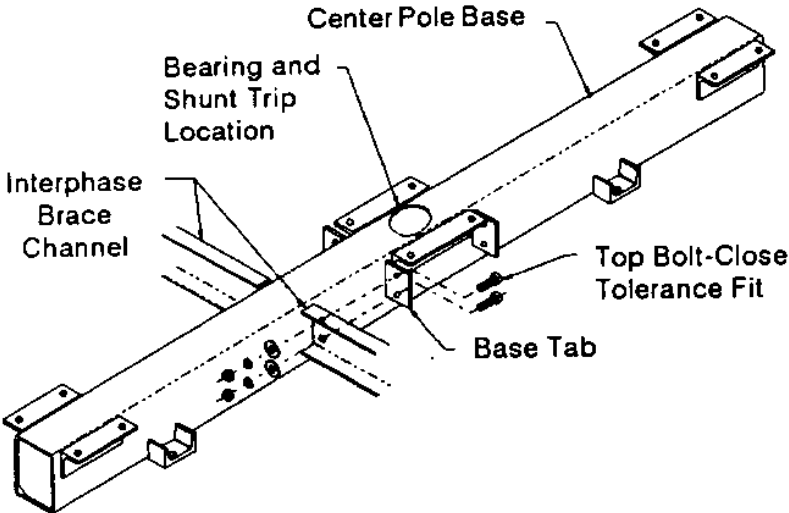

Figure 22 -- Interphase Brace Channel Assembly
2. Install interphase brace channels using kit #2. These brace channels establish centerline distances between pole units. Securely tighten the brace channels first and THEN tighten the pole-to-structure fastening hardware. See Figure 22. If applicable use kit #9 to mount the outboard bearing to the interface channel.